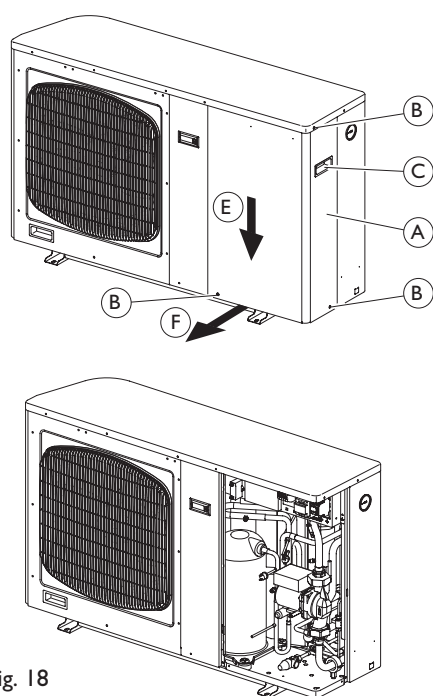

Fig. 18
8. The anti-vibration pads and in-line strainer are supplied inside the heat pump front panel. Please ensure these parts are removed prior to commencing this installation. See Fig. 18 for access to the kit.